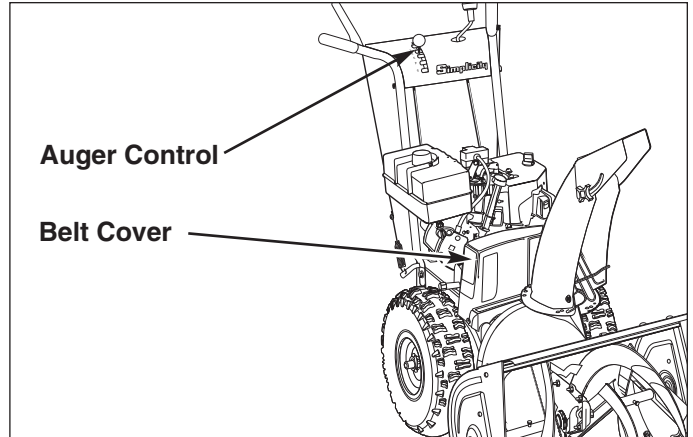

Figure 24. Auger Control and Belt Cover Location
3. Remove belt cover (See Figure 24).